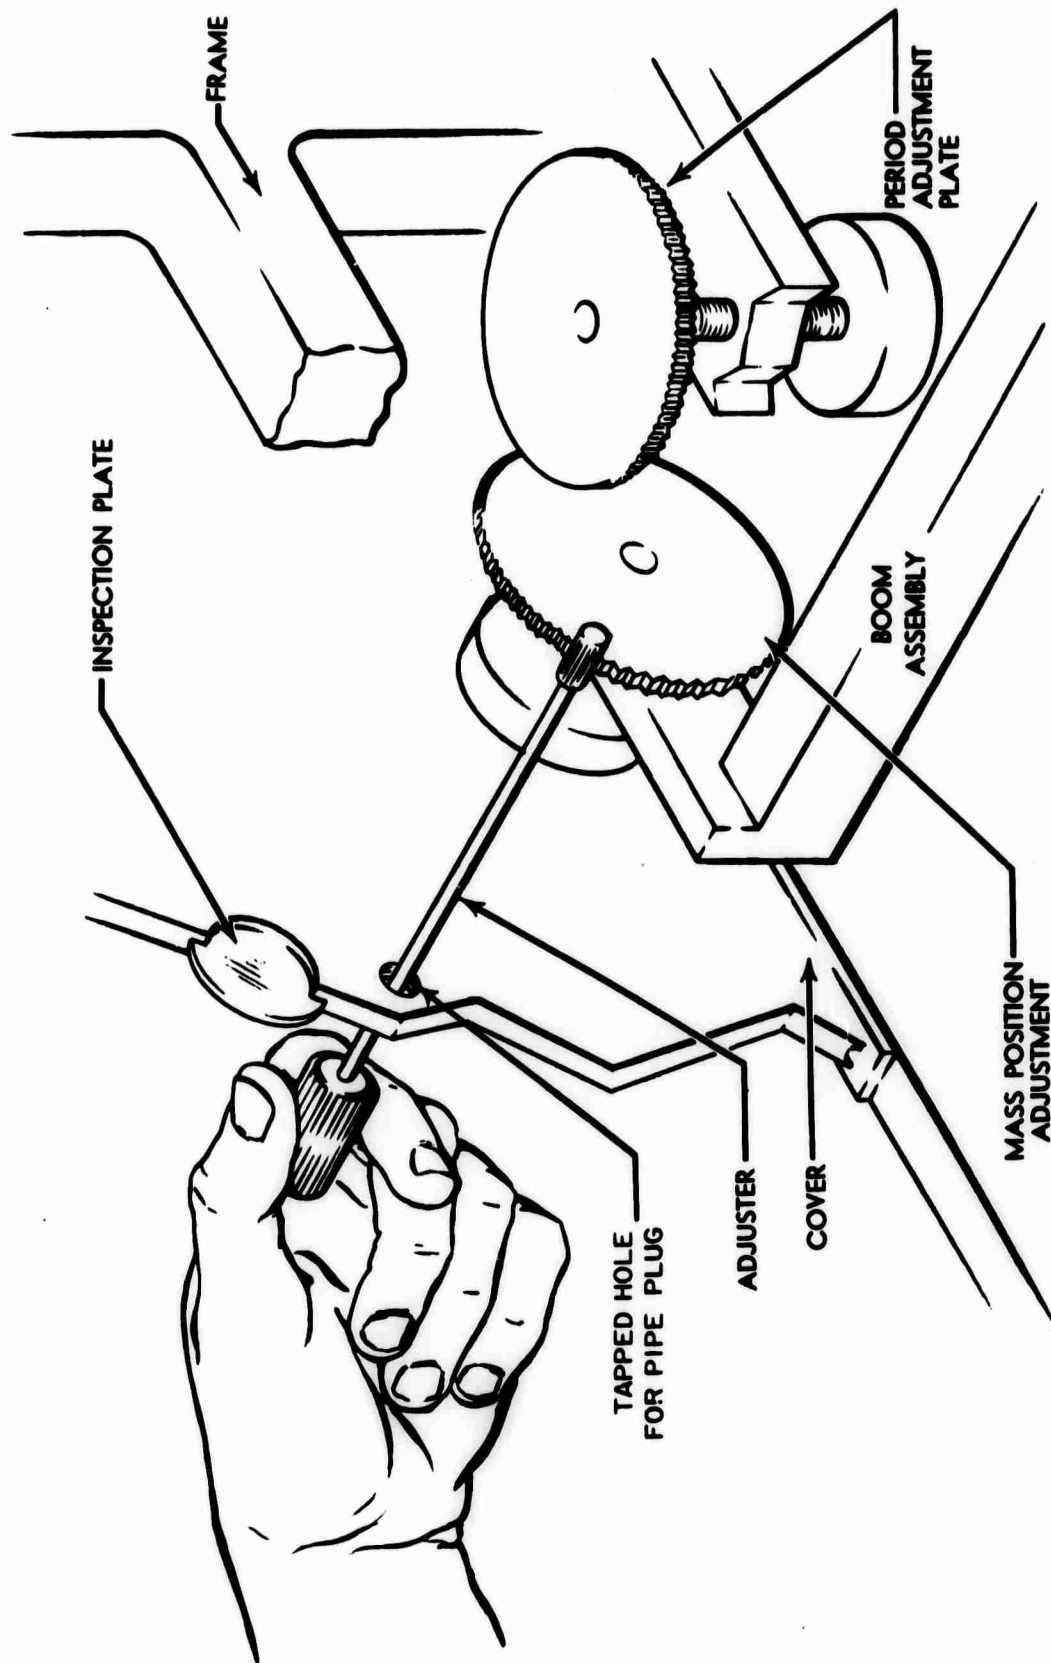

Figure 5-1. Adjustment of Mass Position and Natural Period
- d. Adjust the large gear of the Remote Centering Accessory until the mass position pointer, visible through the window in the front of the cover, is in the center of its scale. This adjustment may be performed either by momentarily applying power to the Remote Centering Accessory motor or by turning the gear with the adjuster assembly furnished (see figure 5-1).
j. If the natural period is not correct, adjust the large knurled adjustment plate as shown in figure 5-1. Turn the plate clockwise to increase the period; turn the plate counterclockwise to decrease the period.
- g. After replacing and latching the cover, replace the pipe plug in the cover (see figure 5-1).